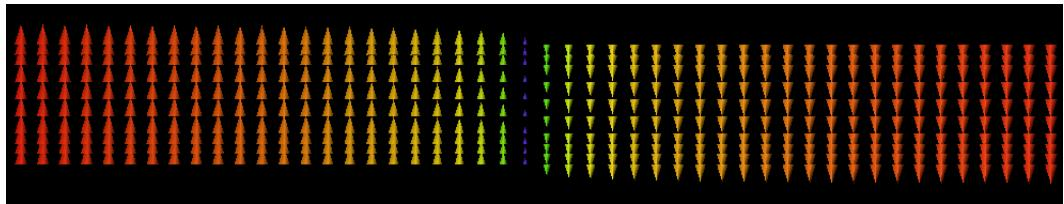

Figure 5.29: Solid Sensor Results in the YZ Plane (detail near the lower Z end of the waveguide, rotated  $90^\circ$ )
- Comparing our result to figure 3.9 in the reference book, TE20 mode, slice 2 we see the same distribution of field lines (Figure 5.29).